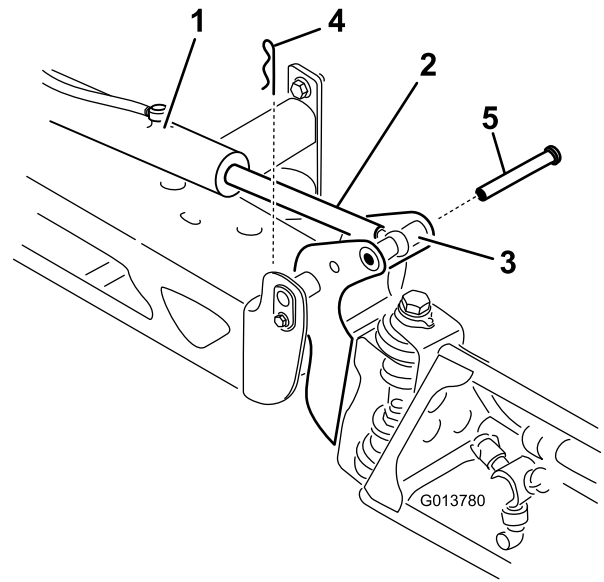

Figure 65
2. Remove the hairpin from the clevis pin (Figure 65).
3. Lift up on the section, remove the clevis pin, and slowly lower the section to the ground (Figure 65).
7. While supporting the spray section, insert the clevis pin through both boom pivot and actuator rod (Figure 65).